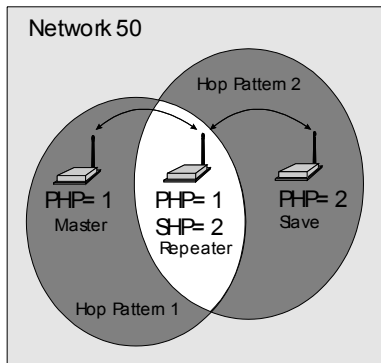
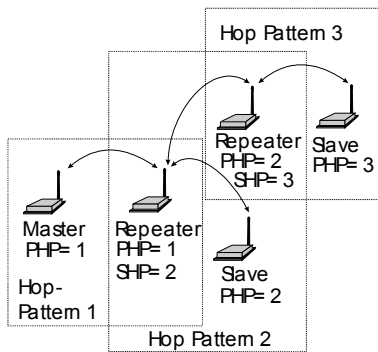

Figure 7 - Repeater Operation
Figure 8 - A Network Utilizing Three Hopping Patterns
4) Repeater. A more precise title would be Repeater/Slave, because a Repeater also has much of the same functionality as a Slave. A terminal can be connected at the Repeater location and communicate with the Master terminal. There is no restriction to the number of Repeaters in a network, allowing for communication over virtually limitless distances. The presence of one Repeater in a network automatically degrades system throughput by half. Additional Repeaters, regardless of the quantity, do not diminish system throughput any further. To understand Repeater operation, consider the SP 900 as belonging to two hopping patterns at the same time: The Primary Hopping Pattern and the Secondary Hopping Pattern. In Figure 7, the Master belongs to Hopping Pattern 1, and communicates with the Repeater on this hopping pattern. The Slave belongs to Hopping Pattern 2, and communicates with the Repeater on this hopping pattern. The whole system belongs to Network 50 (i.e., all units must be assigned the same Network Address (S104), which in this case was selected to be 50. Note that Slaves and Master only communicate on their respective Primary Hopping Pattern. Repeaters communicate on the Primary Hopping Pattern when communicating with the Master (or with another Repeater between itself and the Master). Repeaters communicate on their Secondary Hopping Pattern when communicating with Slaves (or with another Repeater between itself and the Slaves). Figure 8 shows another example.